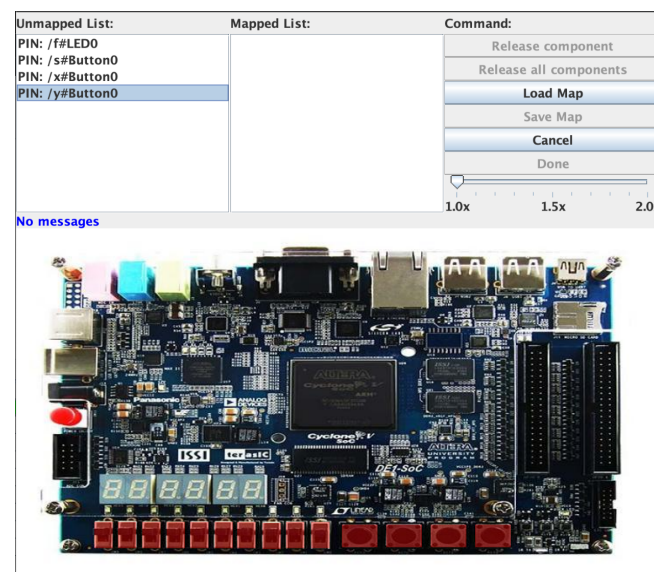

Figure 1.6: The board mapping window
11. Click on **Execute** under **Action method**. A window should open (Figure 1.6).